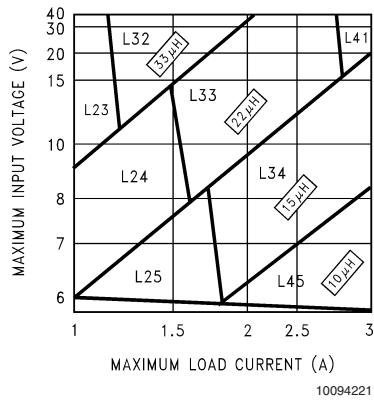
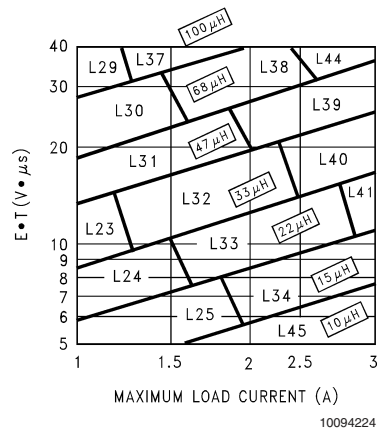

FIGURE 3. LM2670-3.3
FIGURE 6. LM2670-ADJ
**Step 3:** Determine the inductor required by using one of the four nomographs, *Figure 3* through *Figure 6*. Table 1 provides a specific manufacturer and part number for the inductor.
**Step 5:** Determine an input capacitor from Table 4 for fixed output voltage applications. Use Table 2 to find the specific capacitor type. For adjustable output circuits select a capacitor from Table 2 with a sufficient working voltage (WV) rating greater than  $V_{in\ max}$ , and an rms current rating greater than one-half the maximum load current (2 or more capacitors in parallel may be required).
**Step 3:** Use the nomograph for the 3.3V device, *Figure 3*. The intersection of the 16V horizontal line ( $V_{in\ max}$ ) and the 2.5A vertical line ( $I_{load\ max}$ ) indicates that L33, a 22 $\mu H$  inductor, is required.
**Step 3:** To use the nomograph for the adjustable device, Figure 6, requires a calculation of the inductor Volt•microsecond constant (E•T expressed in V•µS) from the following formula:
Using Figure 6, the intersection of 27V•µS horizontally and the 2A vertical line (Iload max) indicates that L38, a 68µH inductor, should be used.
**Important Note:** When using the adjustable device in low voltage applications (less than 3V output), if the nomograph, Figure 6, selects an inductance of 22µH or less, Table 6 does not provide an output capacitor solution. With these conditions the number of output capacitors required for stable operation becomes impractical. It is recommended to use either a 33µH or 47µH inductor and the output capacitors from Table 6.